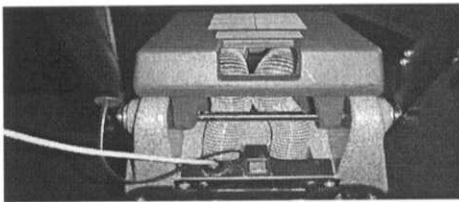

Figure 9
2. Turn main power switch on (Figure 9).